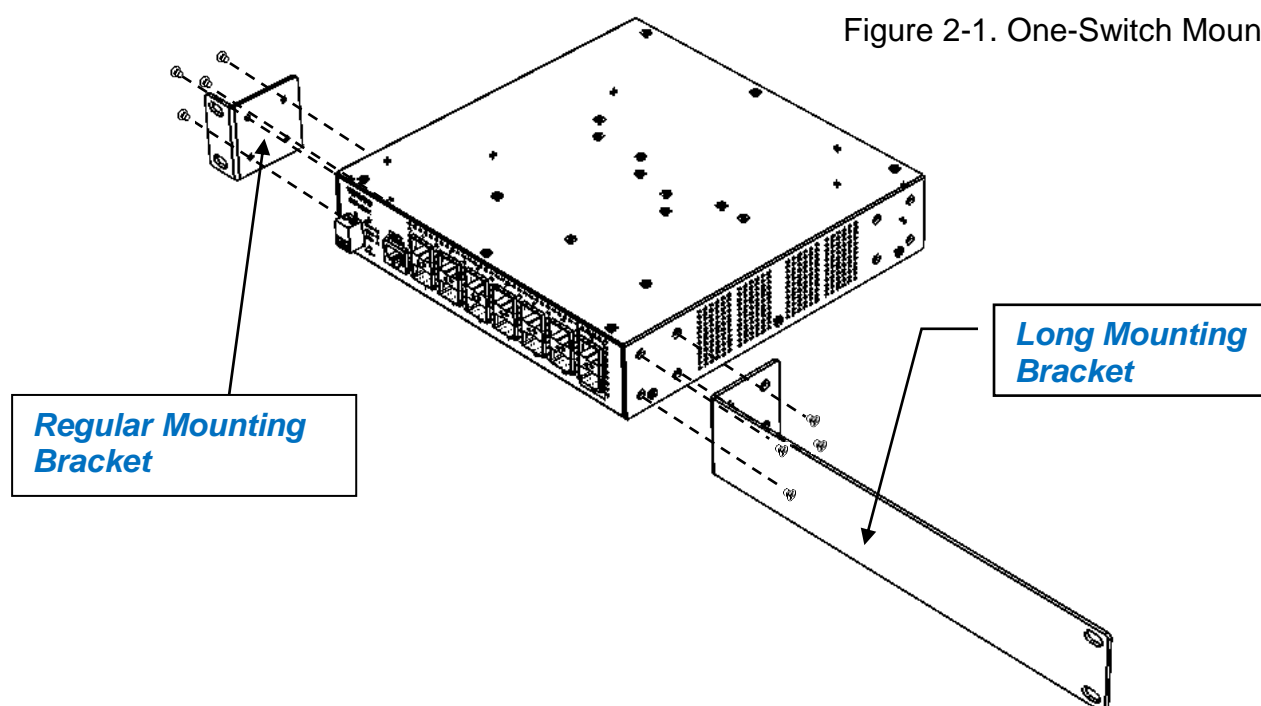

Figure 2-1. One-Switch Mounting
- 1.1. Attach the supplied regular mounting bracket to one side of the switch that you would like to install in the rack. (See Figure 2-1)
- 1.2. Attach the supplied long mounting bracket to the other side of the switch. (See Figure 2-1)
Step 2. Insert the screws provided in the rack-mount kit through each bracket and into the bracket mounting holes in the switch. (See Figure 2-1)